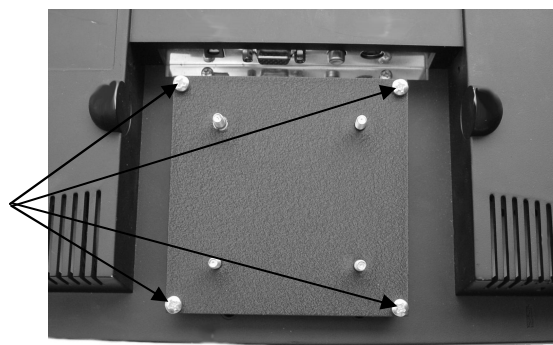

Figure 3. 100mm Bracket Installation
2. Install 100mm adapter bracket using four provided M4 x 6mm or M4 x 10 Phillips head screws (see Figure 3).